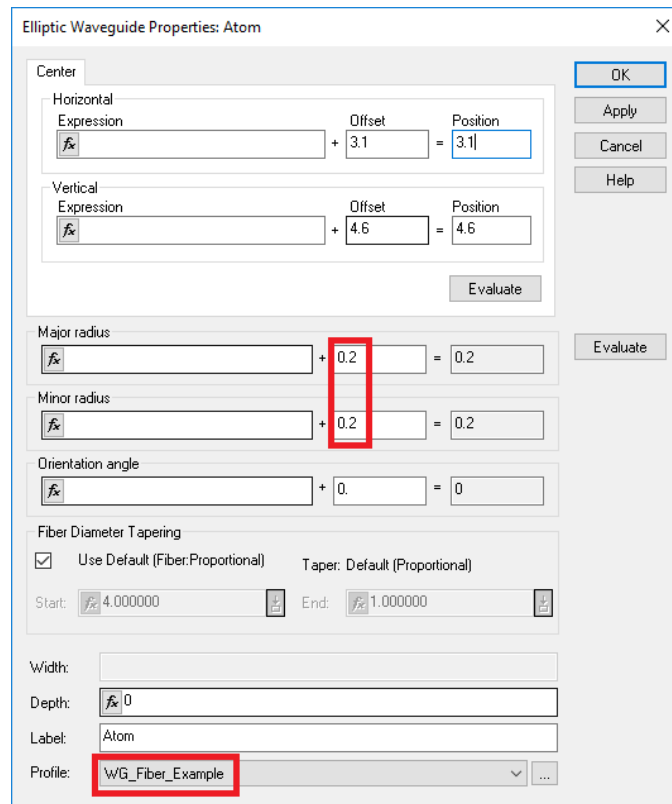
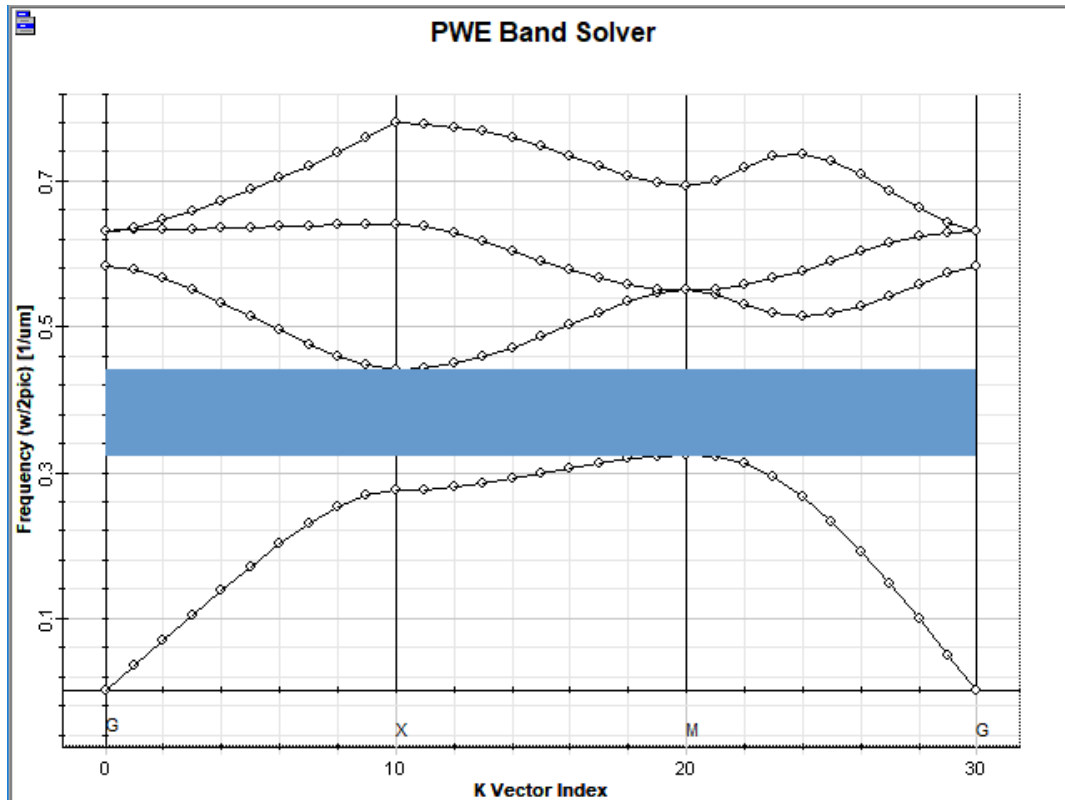

Figure 2, Elliptic Waveguide Properties dialog box
Figure 7, Frequencies of optical Bloch waves in the photonic crystal
. The structure is an array of cylindrical rods with permittivity 8.9 arranged in a square pattern. A trajectory of K vectors is specified in K space and optical frequencies for Bloch waves are found for each point on the trajectory. These frequencies are plotted in Figure 2 of this reference to identify frequencies for which no optical propagation is possible, the so-called band diagram.
4. **Select** the *TE Polarization*. Optiwave follows the convention that transverse electric (TE) means that the electric field in the simulation is parallel to the rods (i.e. the electric field is perpendicular to the 2D space of the simulation). Optiwave TM polarization will find waves in which the magnetic field is parallel to the rods. The convention used in Ref  is the opposite. Therefore selecting TE polarization in OptiFDTD will find the curves labelled TM in the reference, and Optiwave TM simulations will find the curves labelled TE in the reference.
6. **Define** the K-vector path by **selecting** Square ZX from the combo box. This pre-defined path labels the vertices G, X, M. The path will start at G, continue to X, then to M, and then back to G. The path is a triangle in K space as shown in Figure 2 of the reference
- **Click** *Run...* The PWE Band Solver Simulator will appear and display the result, as in Figure 7. **Click** on the *Connect* and *Locate Band Gaps* buttons to connect the dots and locate the band gaps.
Figure 7 reproduces the result shown in Figure 2 of Chapter 5 in the reference, recall that while these are TE results for OptiFDTD these are labelled TM in the reference. To calculate the band diagram for the other polarization, go back to the PWE parameters dialog box (*Simulation > PWE Band Solver Parameters ...*) and change the radio button in the Polarization panel to TM. Then **click Run...** again.